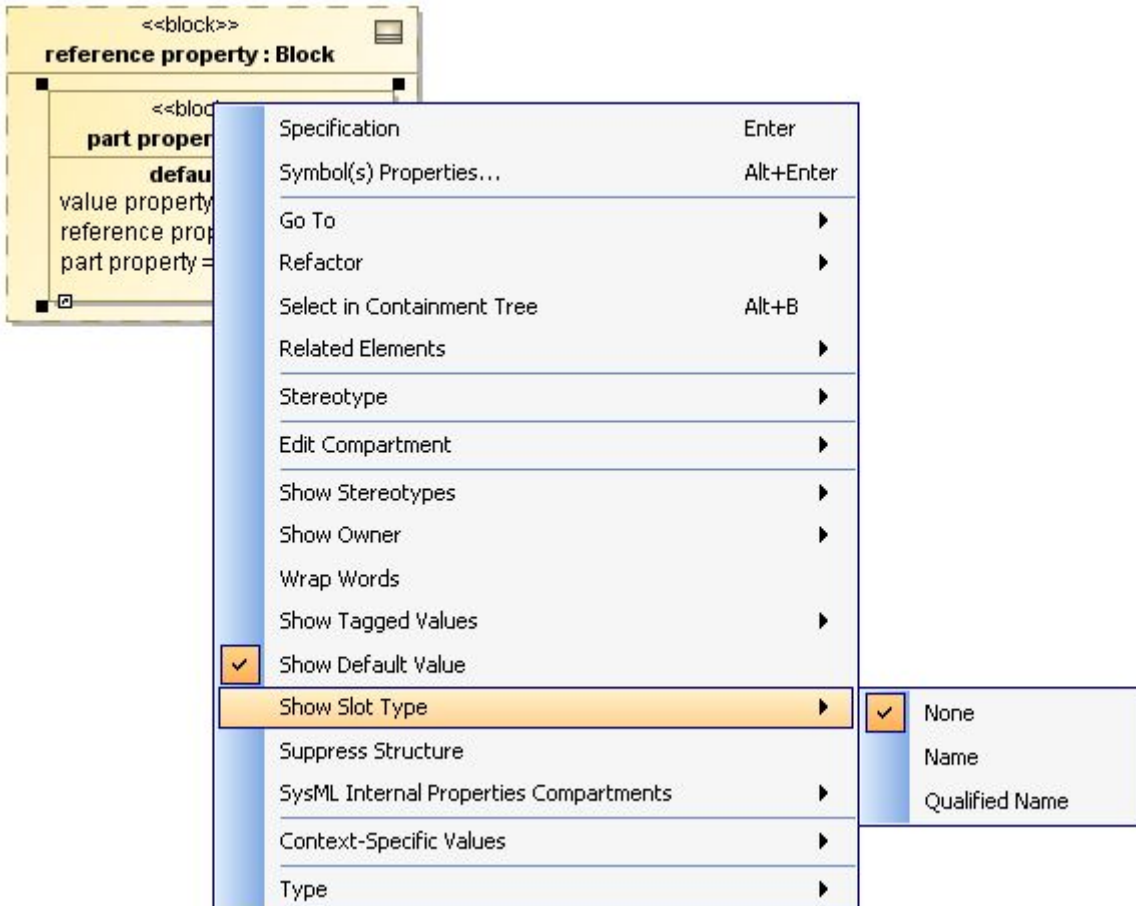

Figure 69 -- Property Shortcut Menu to Show Slot Types
1. Right-click a property and select **Show Slot Type** on the shortcut menu. Three **Show Slot Type** options will be available on the shortcut menu (Figure 69): (i) None (no type slot will be displayed), (ii) Name, and (iii) Qualified Name.